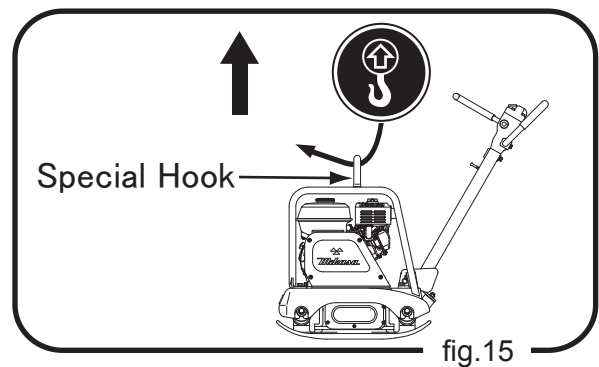

fig.15
3. When lifting, always use a special hook on the guard frame. (Fig. 15) Never lift by using the hook on the handle.